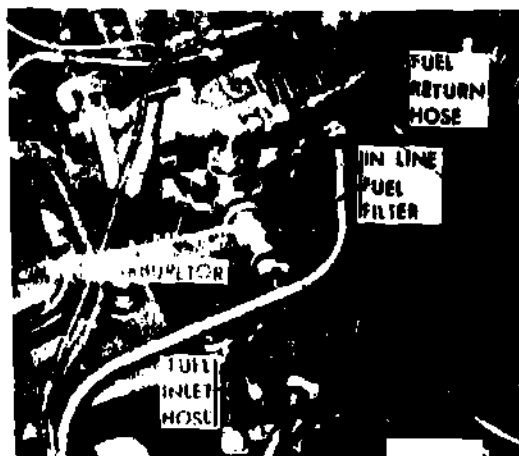

Fig 2-8. Fuel lines and fittings.
- (4) Fuel lines and fittings should be checked to make sure that they are not leaking. Lines that cross over or which are close to each other should be checked to make sure that they are not chafing against one another. Inspect for missing/loose clamps that keep lines from working loose and cracking. The clamps greatly reduce the amount of vibration in the lines (fig 2-8).